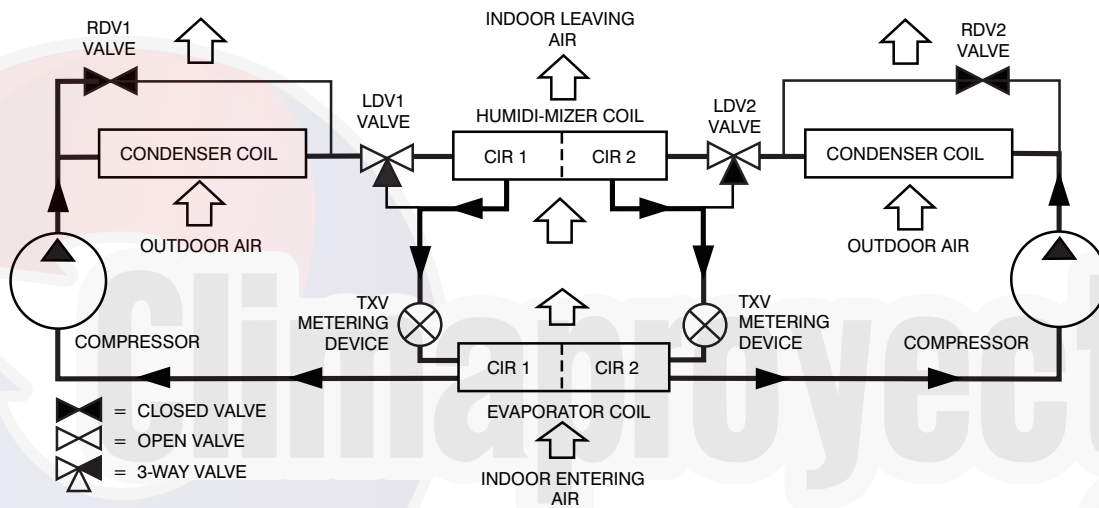

Fig. 78 - Subcooling (Reheat 1) Mode (Sizes 16: Type 3) - Humidi-MiZer® System with Dual Stage Cooling
Subcooling (Reheat 1) Mode: When the unit is operating in a full-load Cooling Mode (with the space temperature above the set-point, and both Y1 and Y2 calling) and the space humidity is also above its set-point, the humidistat will close and the unit operation will shift to Reheat1 (Subcooling). The LDV1 and LDV2 3-way valves will become energized, causing the valves to close their Normally Open (NO) ports, open their Normally Closed (NC) ports redirecting all liquid flow into the Humidi-MiZer coil circuits. The increased subcooling causes the evaporator coil surface temperature to decrease, thus increasing the unit's Latent Cooling effect. The RDV1 and RDV2 valves remain de-energized and closed. See Fig. 78.